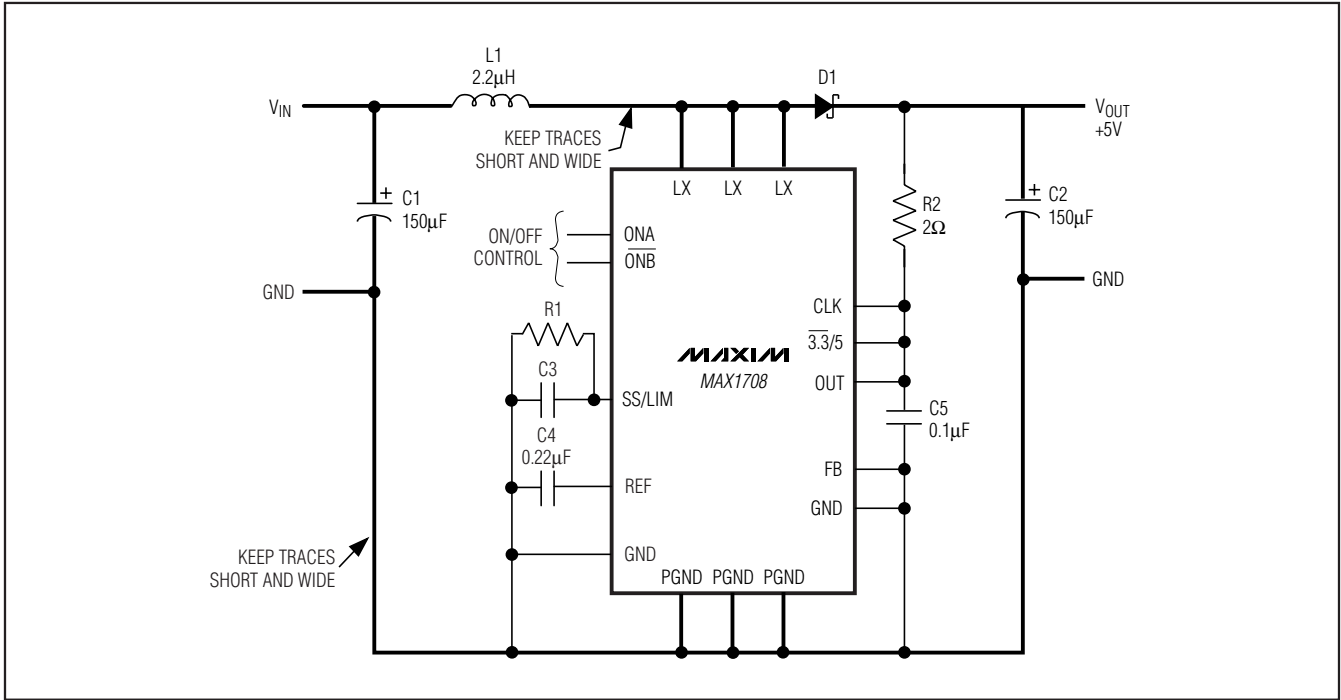
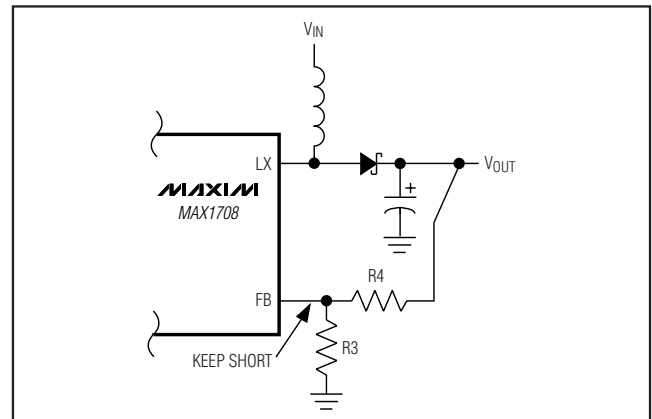

Figure 1. Standard Operating Circuit
Figure 4. Adjustable Output Voltage
**Note 4:** Startup is tested with Figure 1's circuit. Output current is measured when both the input and output voltages are applied.
(Circuit of Figure 1,  $T_A = +25^\circ\text{C}$ , unless otherwise noted.)
The MAX1708 features Dual Mode™ operation. When FB is connected to ground, the MAX1708 generates a fixed output voltage of either 3.3V or 5V, depending on the logic applied to the 3.3/5 input (Figure 1). The output can be configured for other voltages, using two external resistors as shown in Figure 4. To set the output voltage externally, choose an R3 value that is large enough to minimize load at the output but small enough to minimize errors due to leakage and the time constant to FB. A value of  $R4 \leq 50\text{k}\Omega$  is required
The soft-start pin allows the soft-start time to be adjusted by connecting a capacitor from SS/LIM to GND. Select capacitor C3 (see Figure 1):
To improve efficiency or reduce inductor size at reduced load currents, the current limit can be reduced from its nominal value (see *Electrical Characteristics*). A resistor (R1 in Figure 1) between SS/LIM and ground reduces the current limit as follows:
- ILIM = minimum value of switch current limit from *Electrical Characteristics* or set by R1 of Figure 1.
The output filter capacitor ESR must be kept under 30mΩ for stable operation. Polymer capacitors of 150μF (Panasonic EEFUE0J151R) typically exhibit 10mΩ of ESR. This translates to approximately 35mV of output ripple at 3.5A switch current. Bypass the MAX1708 IC supply input (OUT) with a 0.1μF ceramic capacitor to GND and a 2Ω series resistor (R2, as shown in Figure 1).
Due to high inductor current levels and fast switching waveforms, proper PC board layout is essential. Protect sensitive analog grounds by using a star ground configuration. Connect PGND, the input bypass capacitor ground lead, and the output filter capacitor ground lead to a single point (star ground configuration). In addition, minimize trace lengths to reduce stray capacitance and trace resistance, especially from the LX pins to the catch diode (D1) and output capacitor (C2) to PGND pins. If an external resistor-divider is used to set the output voltage (Figure 4), the trace from FB to the resistors must be extremely short and must be shielded from switching signals, such as CLK or LX. To optimize package power dissipation and minimize device heating under heavy loads, expand PC trace area connected to the three PGND pins as much as the layout can allow. This is best accomplished with a large PGND plane on the surface of the board. Also note that outer-layer ground plane area beneath the device provides little heat-sinking benefit. If an outer-layer ground plane is not feasible, the PGND pins should be connected to the inner-layer ground plane with multiple vias (at least three vias per pin is recommended). Since the purpose of these vias is to optimize thermal conductivity to the inner ground plane, be sure that the vias have no gaps in their connections to the ground plane. Refer to a layout example in the MAX1708EVKIT data sheet.